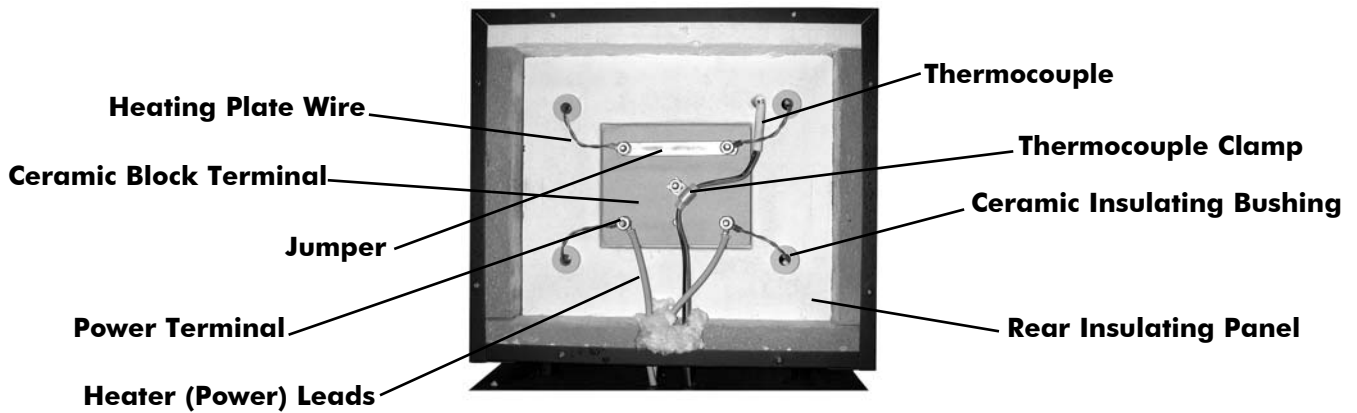

Figure 3
1. Remove the upper rear panel. Refer to figures 3, 4, and 5 on page 8 for the location for the heater connections and arrangement of hardware.